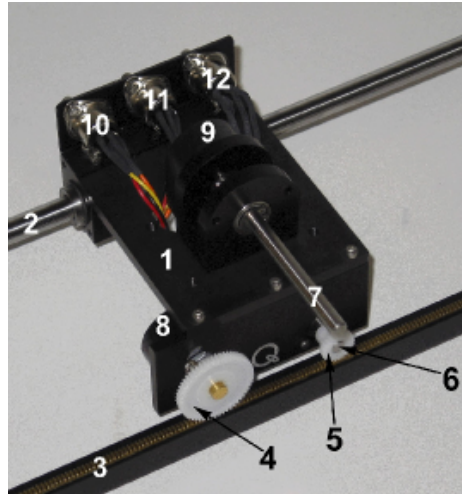

Figure 4: Quanser IP02 cart
Figure 4 shows a picture of the cart used in the lab setup for the pendulum experiments. The main components are the Cart motor pinion (5) with attached 6V DC motor and gearbox (not visible in the figure), the Cart position pinion (4) with attached encoder (8) and the pendulum axis (7) with attached encoder (9). **Warning: The motor pinion is the weakest part of the setup and can easily be damaged by high torque values**, so be careful when running a controller on the hardware. Always start with **less aggressively tuned controllers** first if possible.